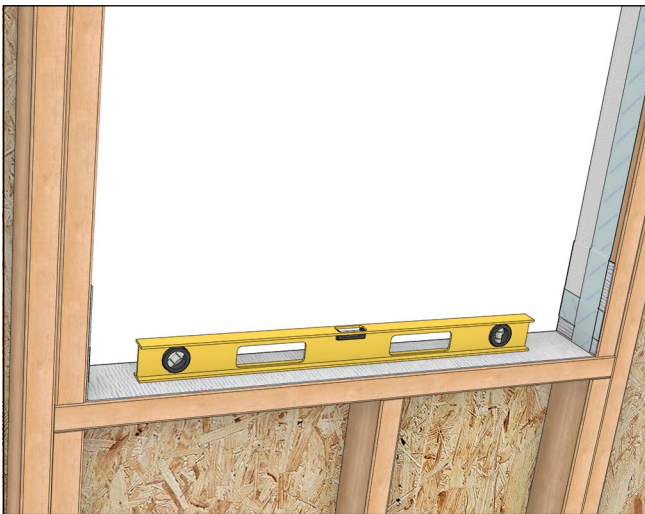

Figure 3
1. Check the sill for level and adjust if necessary. See Figure 3.